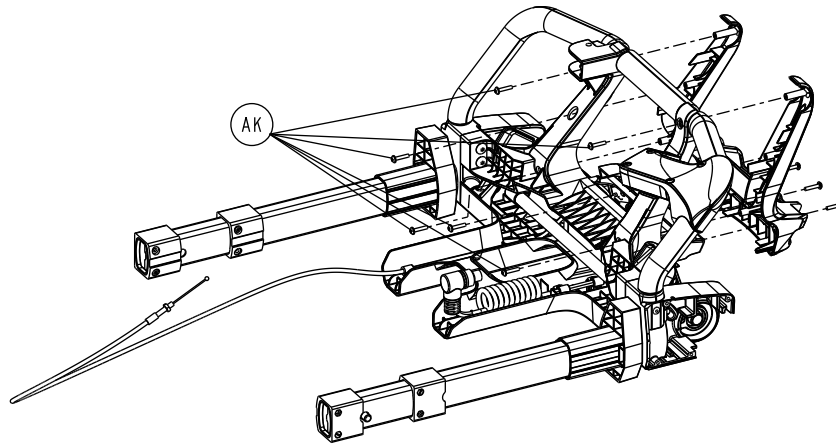

Figure 26 –
18. Using a T20 Torx driver, remove the six round washer head tapping screws (AK) from the back of the foot end housing (Figure 26). Save the screws.